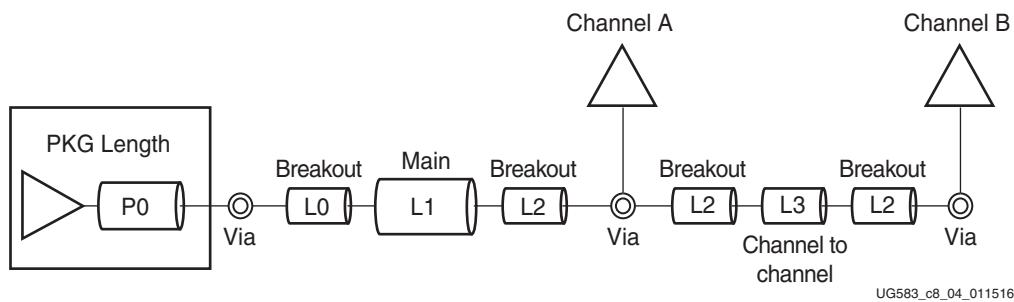

Figure 2-39: Chip Select Routing for LPDDR4 without ECC
Figure 2-39 shows the chip select (CS) routing for the LPDDR4 interface without ECC.